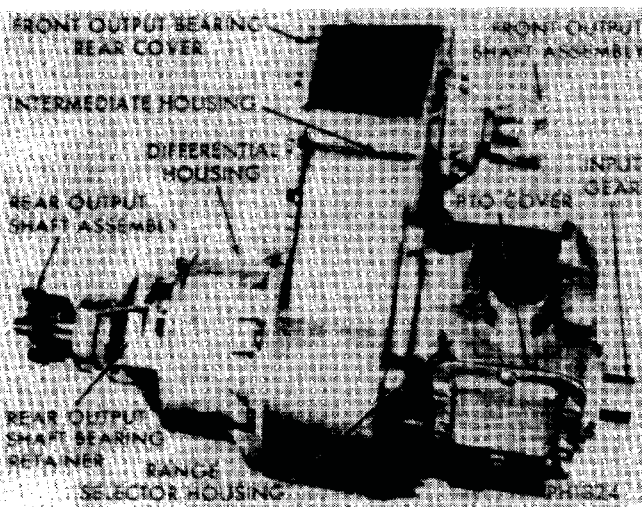

Fig. 9—Transfer Case in Position for Removing Output Yokes
(1) Position drained transfer case on suitable work table (Fig. 9).
(2) Using holding tool C-3281 and a 1-5/16 inch